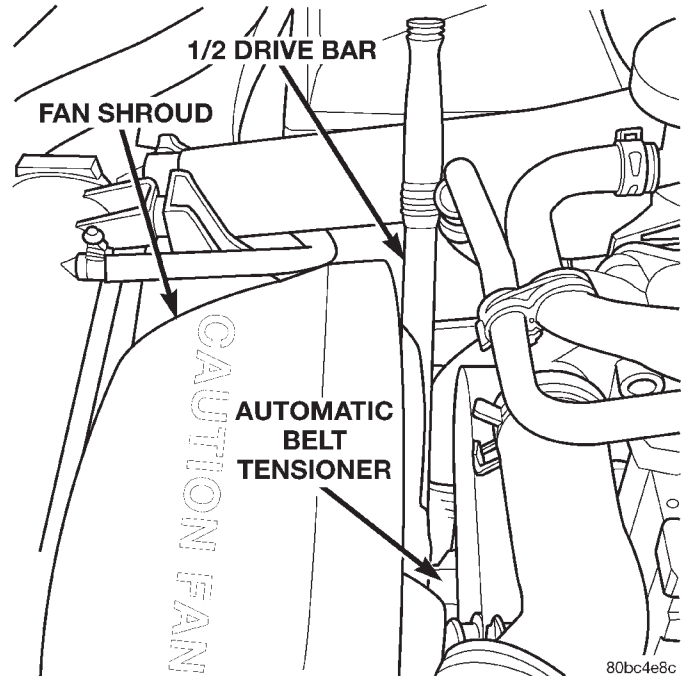

Fig. 1 Removing The Accessory Drive Belt
| (2) Remove the accessory drive belt from the generator pulley (Fig. 1). Refer to Group 7, Cooling System for the procedure. | | |